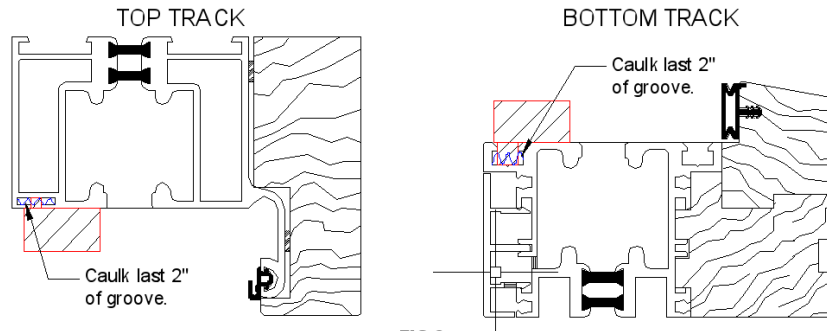

FIG 3.
- b) Caulk ends of both jambs as shown in Fig's 1 thru 3 depicted by squiggly (FIG 3 on next page). Pre screw in 2 (#10 x 4" FH Screw) into top and bottom pre-drilled holes on both jambs for ease of installation.
- c) Caulk the last 2" of the outside groove of both top and bottom tracks before inserting jambs, as shown in FIG 3.
- d) Each jamb has a jamb insert top and bottom; the thicker Insert is at the bottom of the jamb and will be inserted into the outside groove of the bottom track. The thinner jamb insert is at the top of the jamb and will insert into the outside groove of the top track. (See FIG 3).